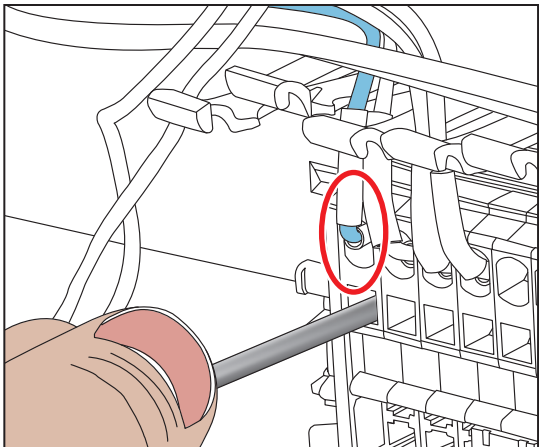

Figure 8
3) Once resistance is felt, insert wire into terminal block (see Figure 8); slowly remove screwdriver.